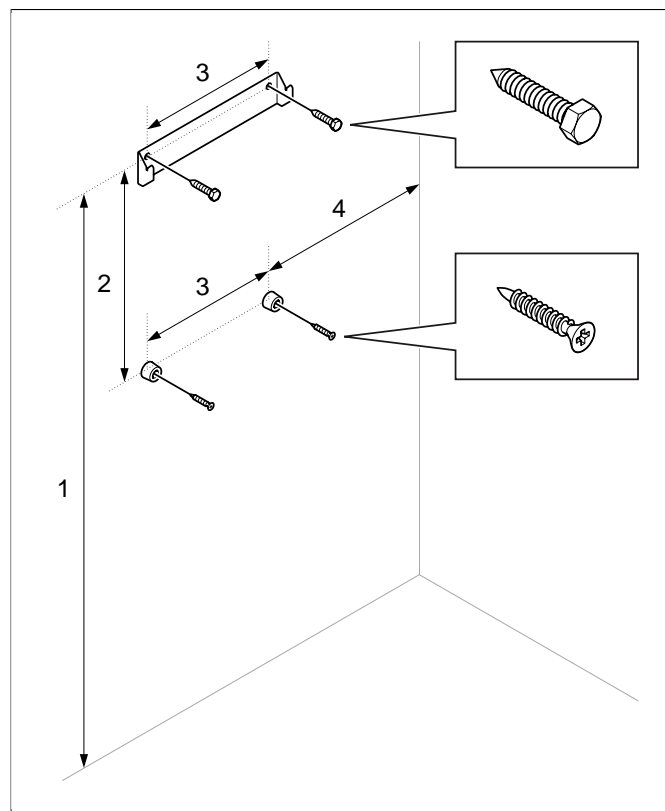

Figure 10: Bracket with screws and spacers
8. Attach the bracket and spacers to the wall following the specified dimensioning (see **Figure 10**, Page 5).